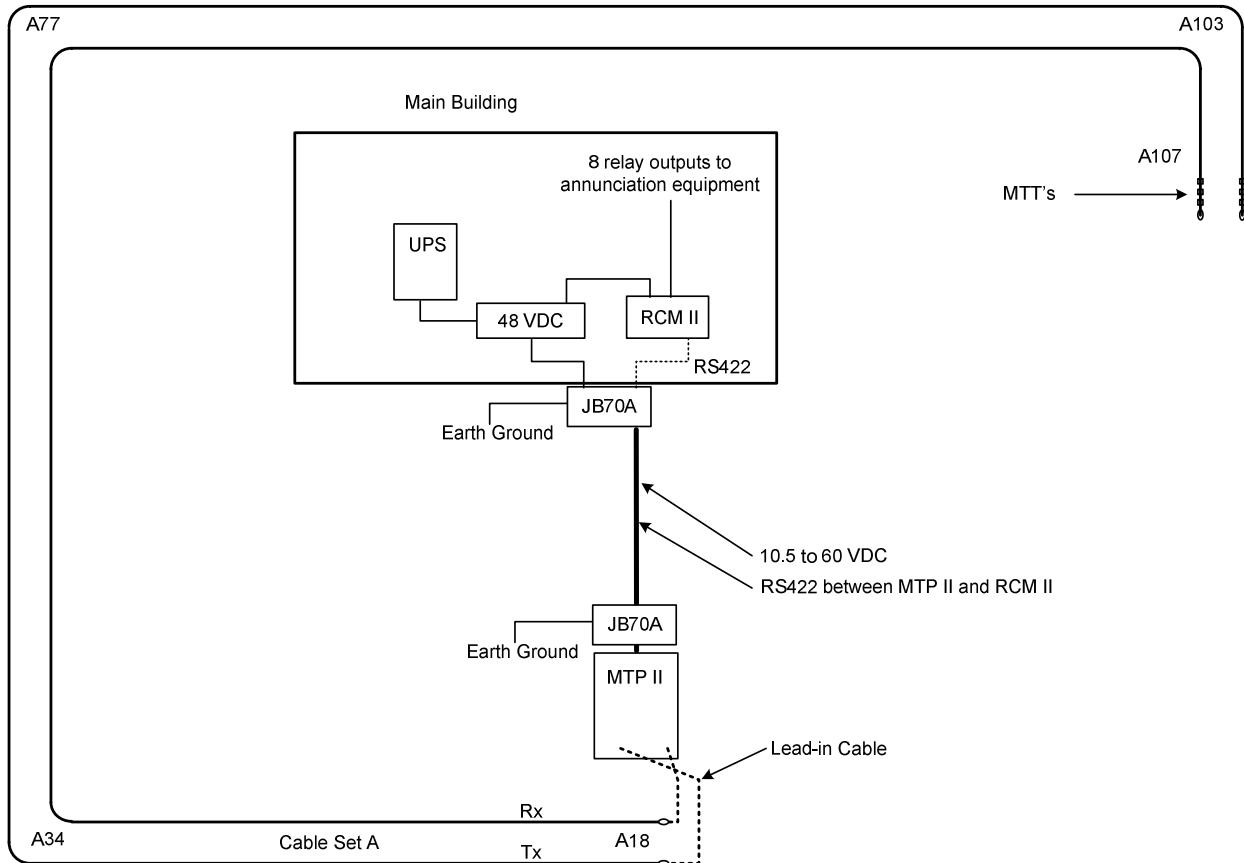

Figure 4.2 – Example of Minimum Configured Stand Alone MicroTrack II System
Figure 4.2 shows a minimum system configuration. The very minimum requirements will be one (1) MTP II, 1 Sensor Cable set, 2 MTT's, 1 Power Supply, 2 JB70A Surge Module and one (1) RCM II. A PC running an alarm monitoring program such as the Perimeter Security Manager or the GCM II can be substituted for the RCM II for graphic alarm annunciation. ***Please note that a single cable set cannot form a closed loop perimeter.*** Two sensor cable sets must be used for a closed loop configuration so that the transmit signal at the end of the cable will not couple back onto the start of the cable which can cause target location errors and/or multiple alarms from a single crossing. When two cable sets are used to form a closed loop, they operate on separate channels (A and B) that do not interfere with each other.